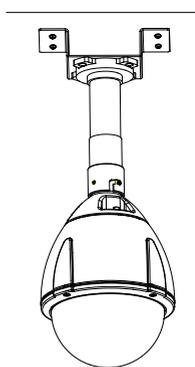

Figure 7
- (9) Installation completed (Figure 7).